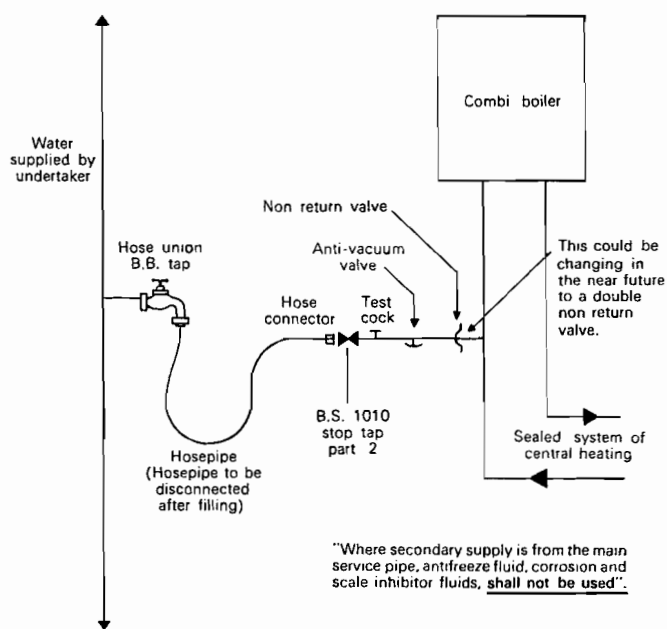

Fig. 3
A direct mains water connection to sealed systems is NOT permitted by the Water Authorities: a suitable temporary filling arrangement is detailed in Fig. 3.
5. Make-up Water. Provision must be made for the replacement of water lost from the system. A suitable method is by temporary connection as shown in Fig. 3, subject to local Water Authority requirements.